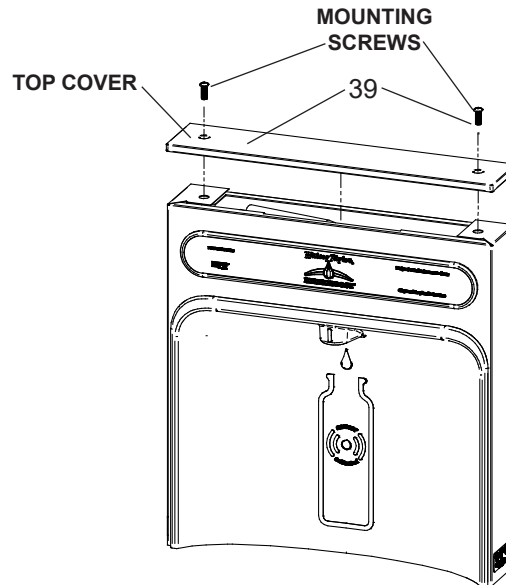
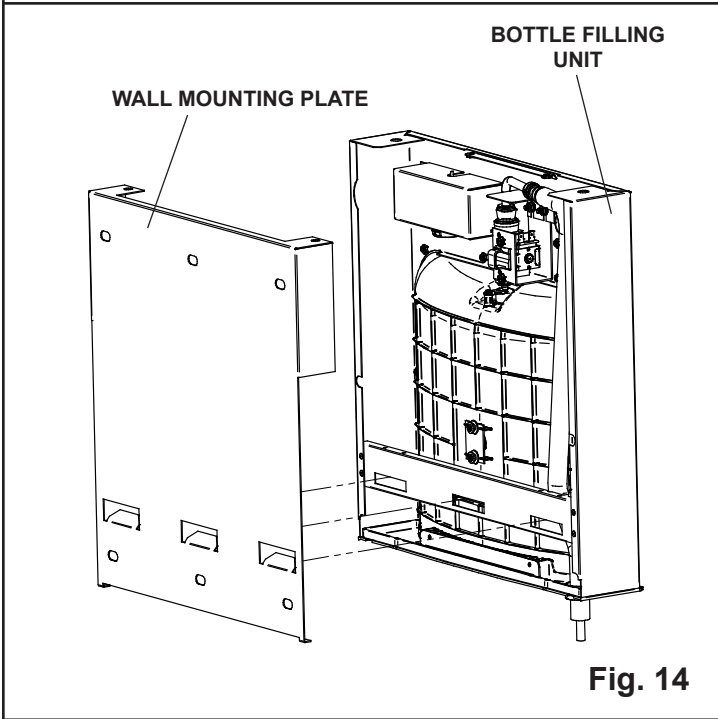

Fig. 9
Fig. 14
- 1) **Remove two (2) mounting screws** with 5/32" Allen wrench holding top cover to Bottle Filler (See Fig. 9). Remove top cover. Note do not discard mounting screws, they will be needed to reinstall top cover.
- 8) **With the power cord and waterline through hole** on top of water cooler place Bottle Filler on the three (3) angled tabs protruding from the wall mounting plate installed on wall. Make sure round boss in gasket fits in hole of basin. (See Fig. 14).
- 9) **Once Bottle Filler is installed on wall plate tabs,** water line and power cord are installed properly, push top of Bottle Filler toward wall and line up top cover two (2) holes.
- 10) **Reinstall Top Cover on Bottle Filler** (See Fig. 9) with two mounting screws from step 1 above. Caution, do not over tighten screws.